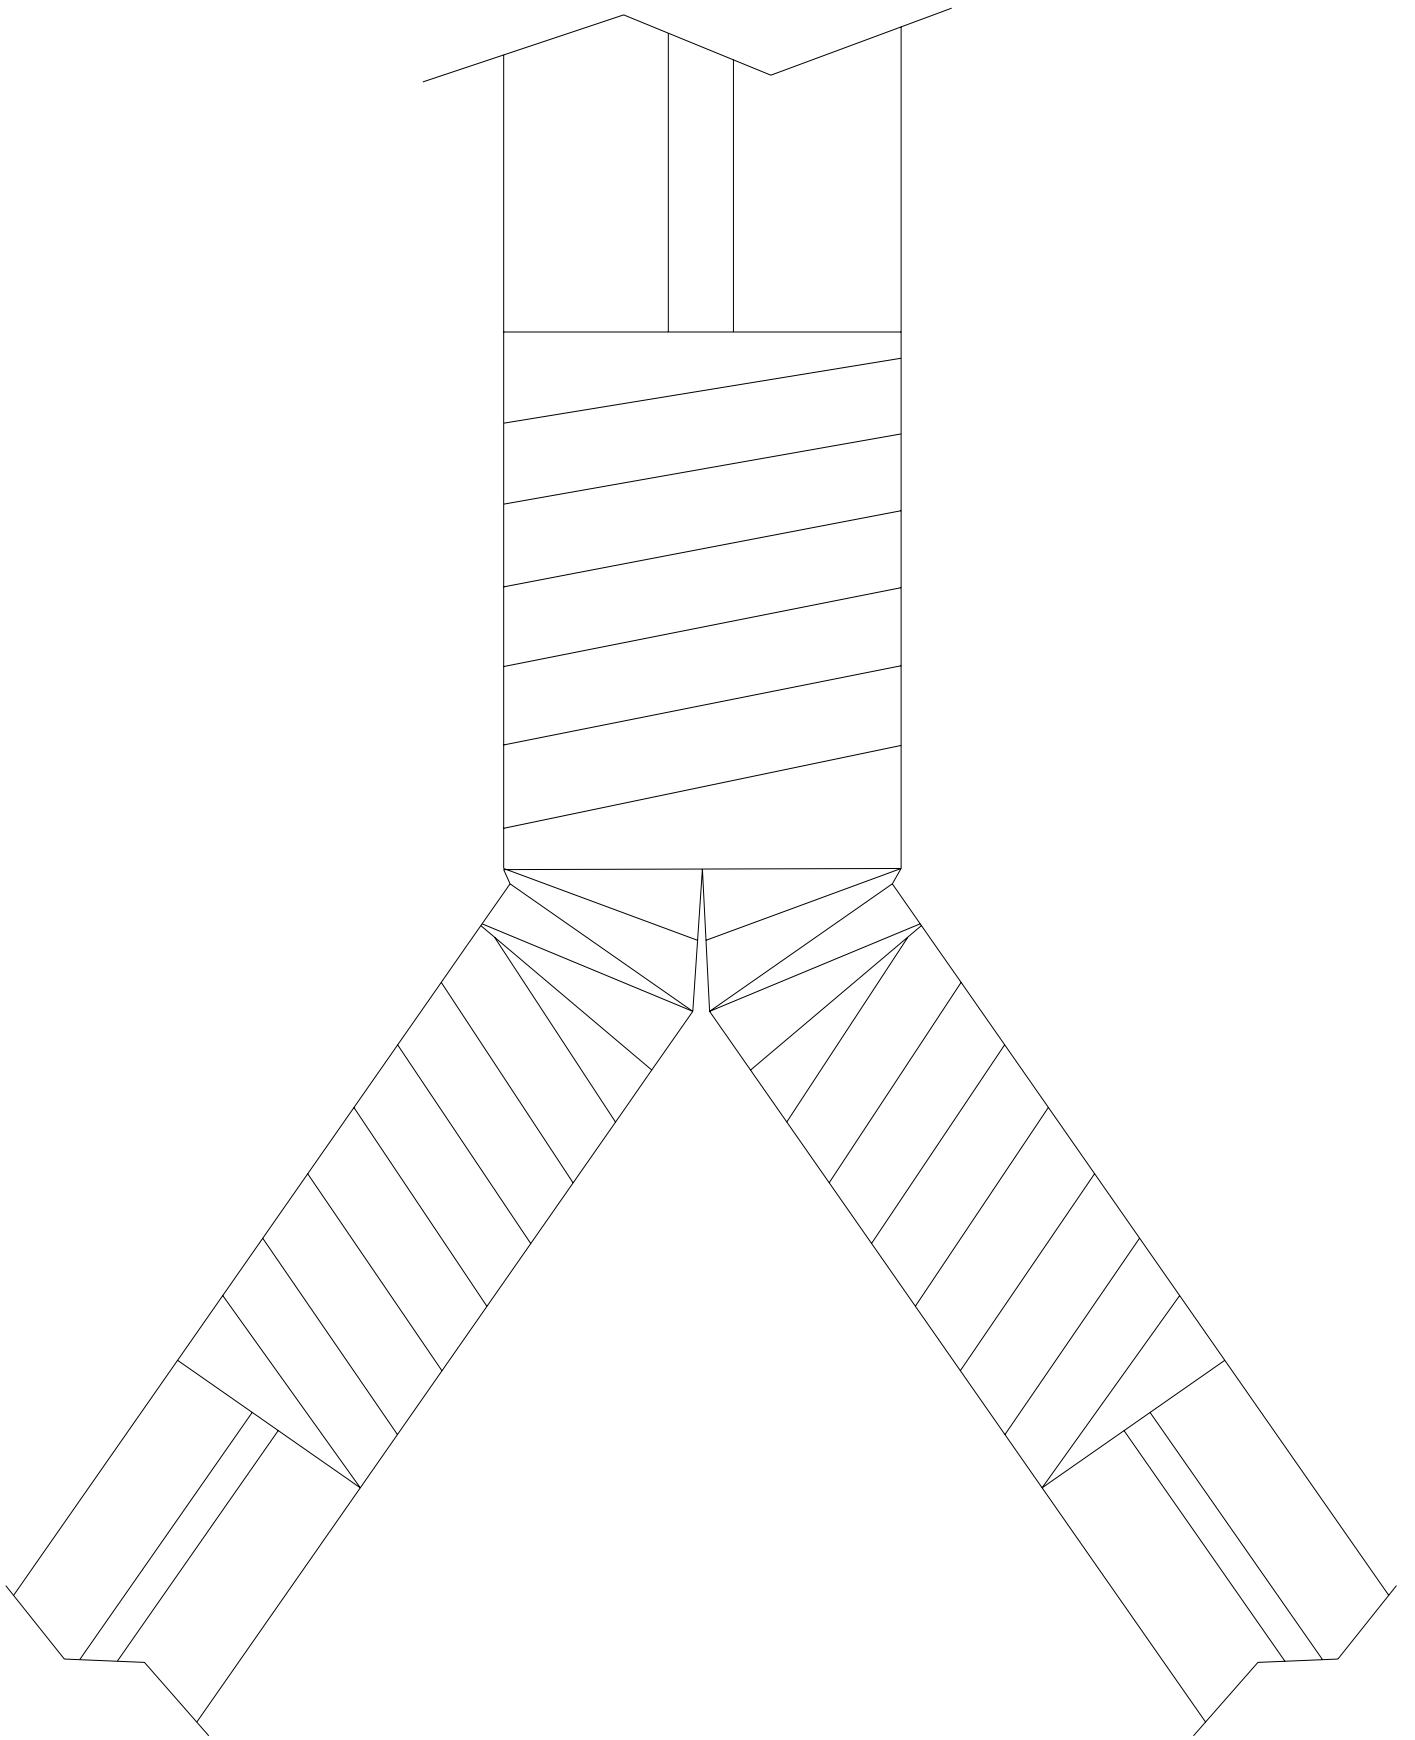

FIGURE 15. ZT-TAPE-8235 INSULATION TAPE WRAP
- Step 3. Use Zippertubing's "ZT-Tape-8235" Polyurethane insulating tape and over wrap all legs of the breakout. Use a 50% overlap technique and insure that the crotch area is completely covered. Install string ties, cable ties or banding clamps to each leg of the taped assembly to insure good shield to shield contact and stop any shifting of the assembly. (Figure 15 and 16))